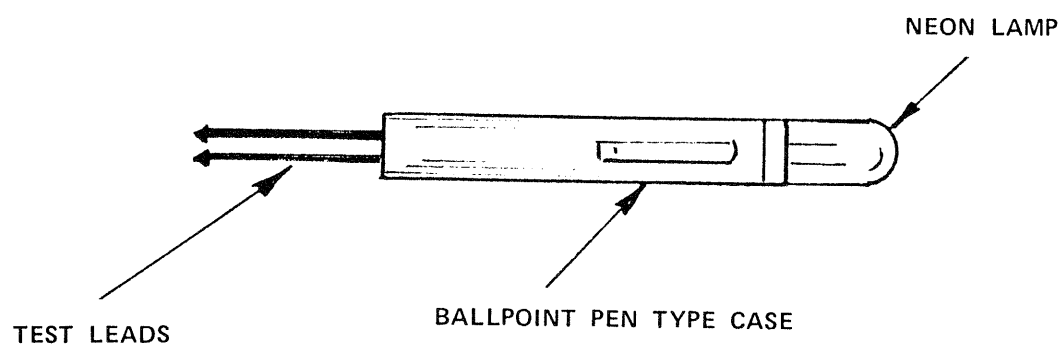

Figure A-1
- 1. AC TEST LAMP (Figure A-1) Lights when connected to a voltage source more than 90 volts DC. Use it to test the presence or absence of the high voltage (180 volts DC) and line voltage (110 volts AC).